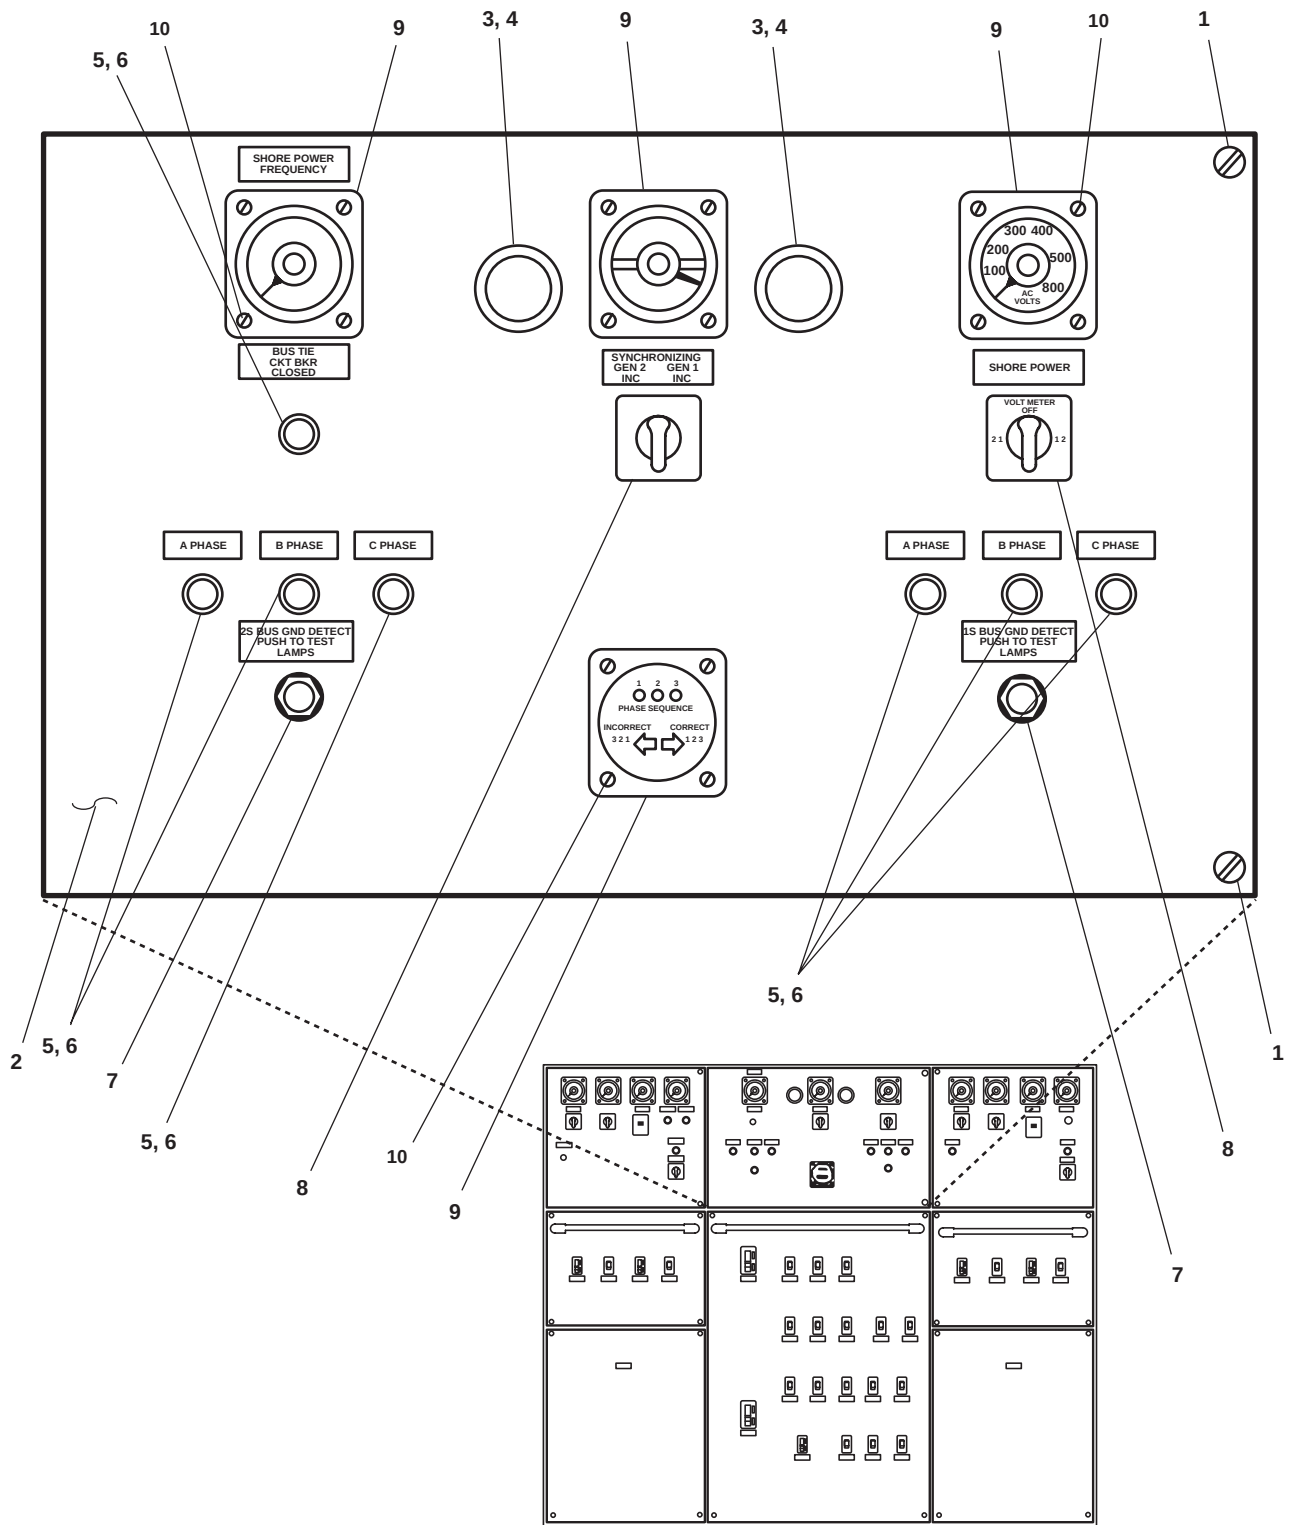
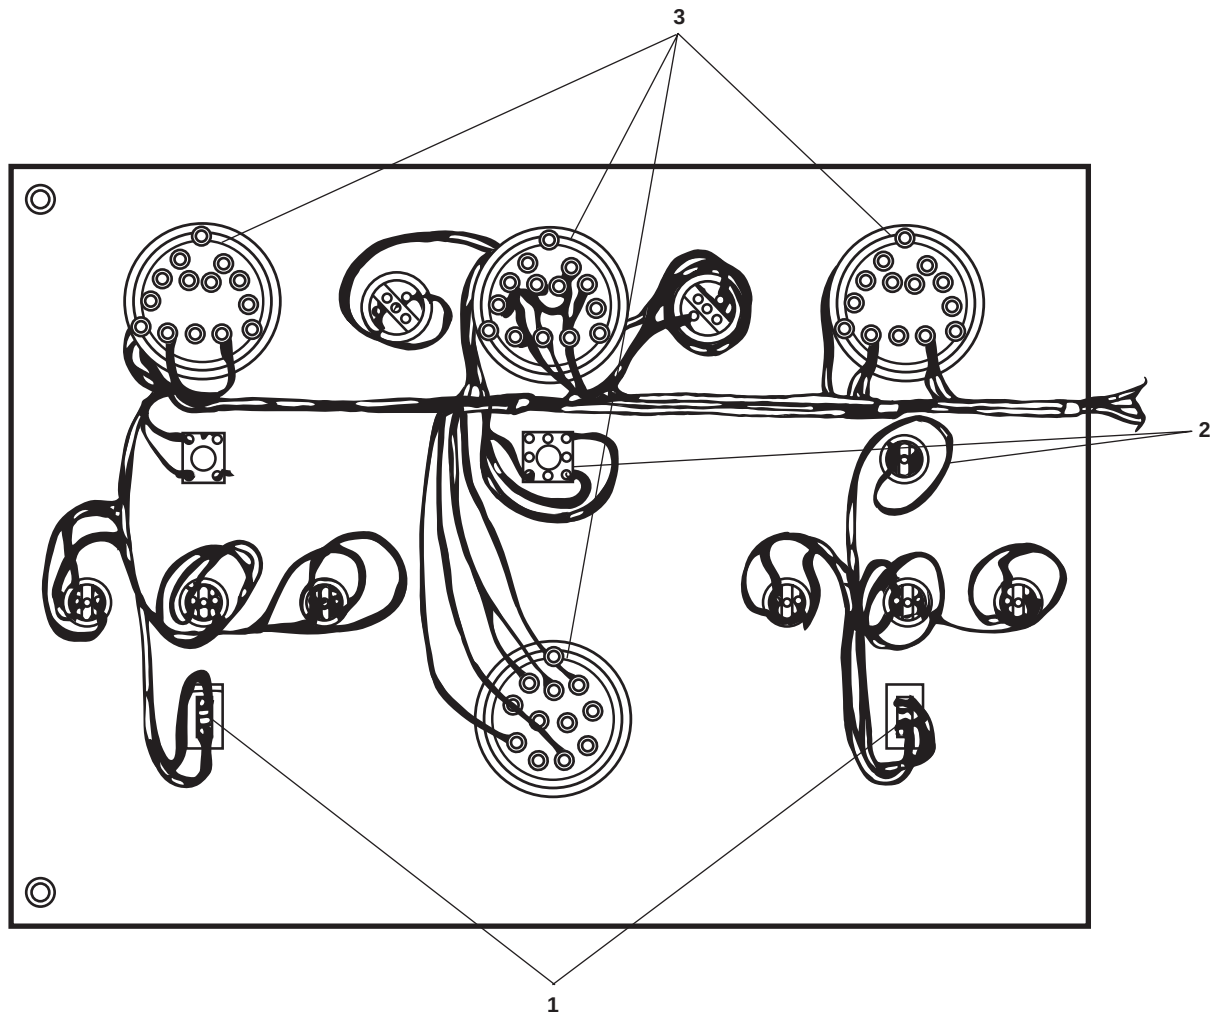

Figure 4. Main Switchboard Top Center Panel
Figure 5. Main Switchboard, Top Center Panel (Rear)
1. Loosen the captive screws (figure 4, item 1) on the door panel (figure 4, item 2).
2. Open the door panel (figure 4, item 2).
1. Remove the sync light and lens cover (figure 4, item 3) from the door panel (figure 4, item 2).
2. Remove the lamp (figure 4, item 4) from the door panel (figure 4, item 2).
1. Install the lamp (figure 4, item 4) in the door panel (figure 4, item 2).
2. Install the sync light and lens cover (figure 4, item 3) on the door panel (figure 4, item 2).
1. Remove the indicator lens cover (figure 4, item 5) from the door panel (figure 4, item 2).
2. Remove the incandescent lamp (figure 4, item 6) from the door panel (figure 4, item 2).
1. Install the incandescent lamp (figure 4, item 6) in the door panel (figure 4, item 2).
2. Install the indicator lens cover (figure 4, item 5) on the door panel (figure 4, item 2).
2. Use a multimeter to check for voltage at the applicable pushbutton(s) (figure 4, item 7). If voltage is present, ensure that the proper circuit breakers and engine fuel oil valves have been secured, locked out, and tagged out (FM 55-502). If no voltage is present, continue with the procedure.
3. Remove any associated hardware from the applicable pushbutton(s) (figure 4, item 7).
4. Label and disconnect the electrical wiring to the pushbutton (figure 5, item 1).
5. Remove the pushbutton (figure 5, item 1) from the door panel (figure 4, item 2).
1. Install the pushbutton(s) (figure 5, item 1) in the door panel (figure 4, item 2).
2. Install the associated hardware for the pushbutton (figure 5, item 1).
3. Connect the electrical wiring to the pushbutton (figure 5, item 1) using the labels from step 4 of Removal as a guide. Remove the labels.
2. Use a multimeter to check for voltage at the applicable switch (figure 4, item 8). If voltage is present, ensure that the appropriate circuit breakers and engine fuel oil valves have been secured, locked out, and tagged out (FM 55-502). If no voltage is present, continue with the procedure.
3. Label and disconnect the electrical wiring to the applicable switch (figure 5, item 2).
4. Remove the knob(s) and the associated hardware from the applicable switch (figure 4, item 8).
5. Remove the switch (figure 4, item 8) from the door panel (figure 4, item 2).
1. Install the switch (figure 5, item 2) through the rear of the door panel (figure 4, item 2).
2. Install the associated hardware on the switch (figure 4, item 8).
3. Connect the electrical wiring to the switch (figure 5, item 2) using the labels from step 3 of Removal as a guide. Remove the labels.
2. Use a multimeter to check for voltage at the applicable meter (figure 4, item 9) to be replaced. If voltage is present, ensure that the appropriate circuit breakers and engine fuel oil valves have been secured, locked out, and tagged out (FM 55-502). If no voltage is present, continue with this procedure.
3. Remove the four screws (figure 4, item 10) from the meter (figure 4, item 9).
4. Label and disconnect the electrical wiring from the meter (figure 5, item 3).
5. Remove any associated hardware attached from the meter (figure 5, item 3).
6. Remove the meter (figure 5, item 3) from the door panel (figure 4, item 2).
1. Install the meter (figure 5, item 3) through the rear of the door panel (figure 4, item 2).